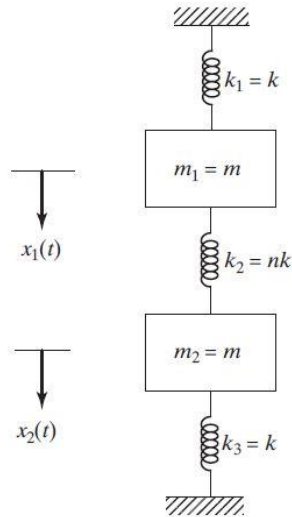

FIGURE 5.6 Two-degree-of-freedom system.
- 5.16** Find the natural frequencies of the system shown in Fig. 5.6 for $k_1 = 300 \text{ N/m}$, $k_2 = 500 \text{ N/m}$, $k_3 = 200 \text{ N/m}$, $m_1 = 2 \text{ kg}$, and $m_2 = 1 \text{ kg}$.
- 5.19** For the system shown in Fig. 5.6, $m_1 = 1 \text{ kg}$, $m_2 = 2 \text{ kg}$, $k_1 = 2000 \text{ N/m}$, $k_2 = 1000 \text{ N/m}$, $k_3 = 3000 \text{ N/m}$, and an initial velocity of 20 m/s is imparted to mass m_1 . Find the resulting motion of the two masses.